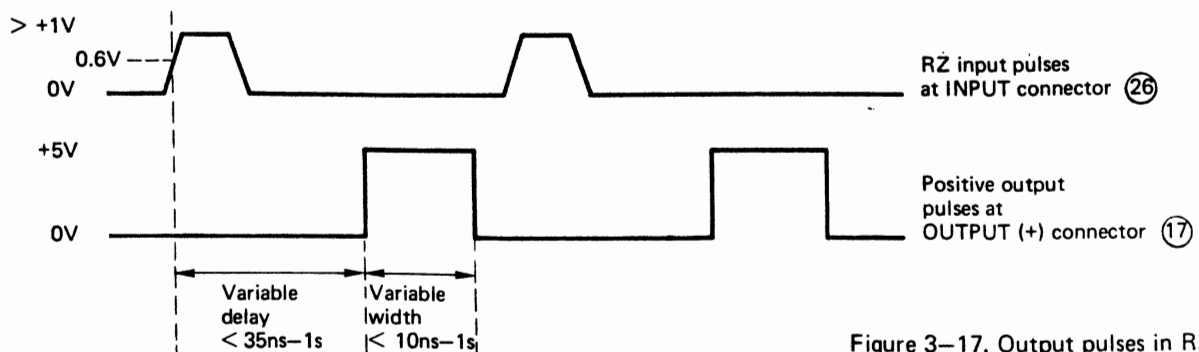

Figure 3-17. Output pulses in RZ mode
a. Connect the external signal to the INPUT connector (26) on the rear panel of the 8013B.
b. Set the Mode Selector switch (25) to RZ.
3-43 The output pulses should appear at the OUTPUT (+) connector (17) as shown in Figure 3-17.